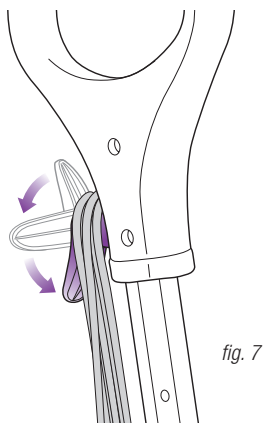

fig. 7
- 1 Pull and twist the quick release cord holder to unwrap the power cord completely. Plug into an electrical outlet. **(fig. 7)**